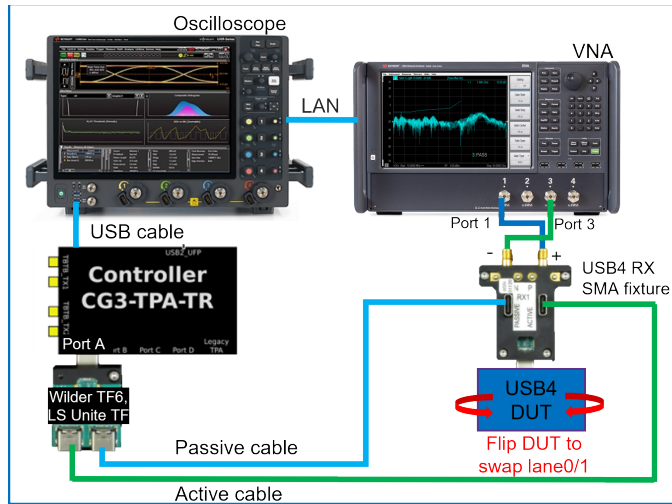

Figure 209 Tx Return loss test setup with Rx SMA test fixture
- 1 For the physical connections between the DUT & the Oscilloscope, see the connection diagrams in Figure 209 and Figure 210.